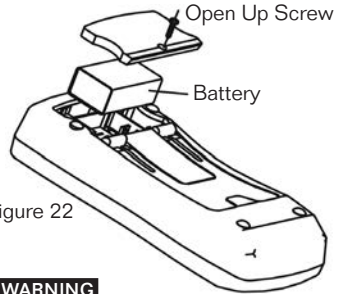

figure 22
C. Replacing the Battery (see figure 22)